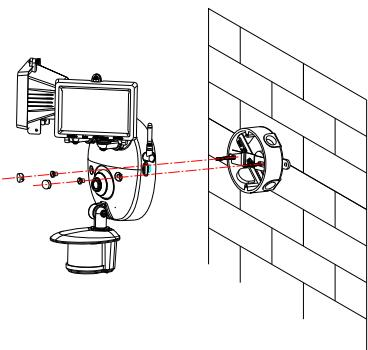

FIGURE 11
(5) Place the wiring box and secure it with the two screws provided (FIGURE 11).